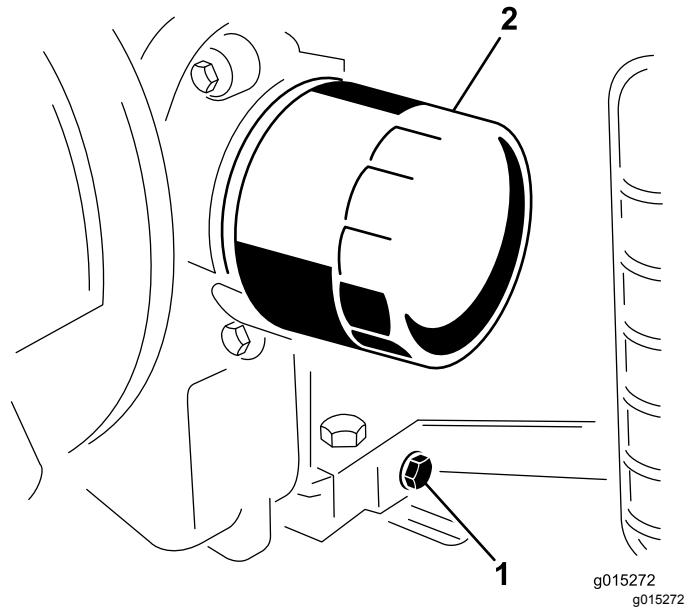

Figure 15
- Place a pan below the oil drain. Remove the oil drain plug to allow the oil to drain (Figure 15).